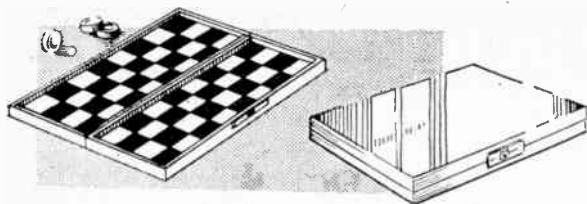

Fig. 1—The board completed
DETAIL OF FIGURES 1/4" SQUARES
The general scheme of decoration is clear from the sketch (Fig. 1), but the choice of colour and finish—matt or gloss—is largely a matter of personal taste. The following scheme was applied to the prototype model and was found to give a pleasing effect:—
**T**HE handy combined draughts board and box shown in the illustration Fig. 1, would be useful to the home player as well as to the traveller.